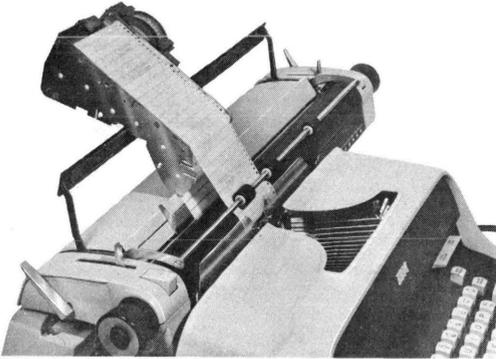

Fig. 10—1B Cartridge in Place For Typing Entries
- (5) Lock roller in place and position 1B cartridge on carriage as shown in Fig. 10. Rapid return of carriage may require supporting 1B cartridge.
- (6) Type entries between lines on directory tape. Use pencil type eraser to remove entries or errors, taking care not to wrinkle or tear tape.